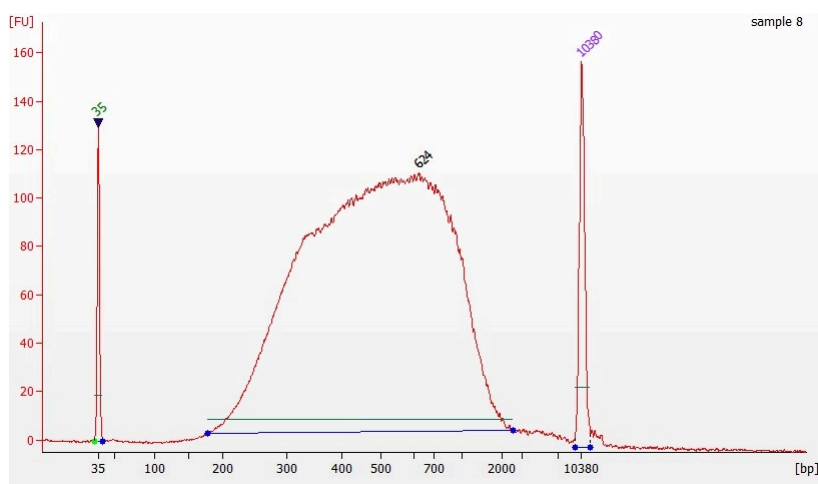

Figure 3 Agilent 2100 Bioanalyzer results of 200 ng gDNA#dissolved in pH8.0 1xTE buffer#single size selection fragmentation product#30 #C, 11 min#
**Tips** For the demo test, it is recommended to take 1 μL of step 3.3.1.12 eluted product for Agilent 2100 High Sensitivity test (Figure 3), to ensure that the peak size of the selected fragments is approximately 600 bp to 750 bp. It should be noted that the peak size of the sequenced library is normally smaller than the peak size shown in the Agilent 2100 Bioanalyzer.